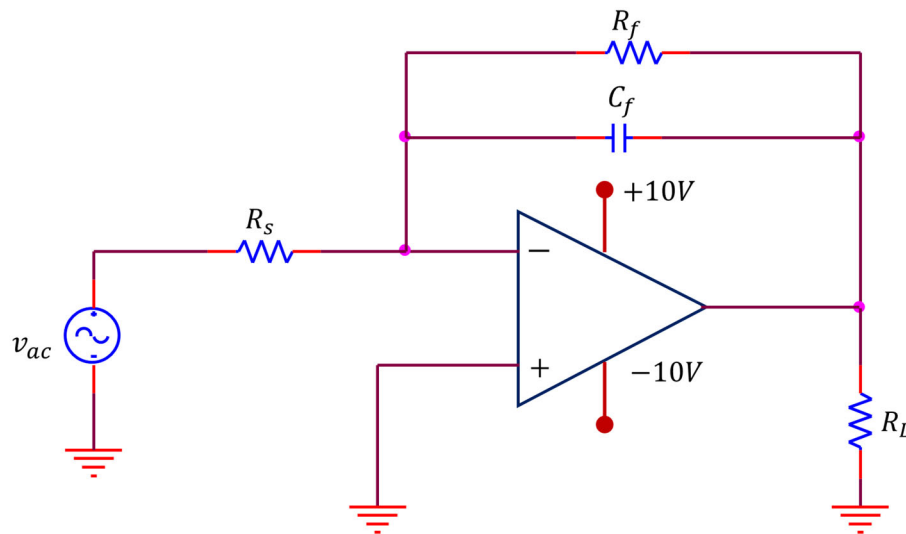

Figure 1: First order active low pass filter for part 1
- 1.1 In LTSpice, use the **LT1490 op-amp** to build an active **low pass** filter shown in figure 1. Use $R_f = 100\text{ k}\Omega$, $C_f = 10\text{ nF}$, and $R_s = 20\text{ k}\Omega$. Use $\pm 10\text{V DC}$ power supplies for the op-amp and use an **AC source** to the input of the filter. The load resistance $R_L = 1\text{ k}\Omega$